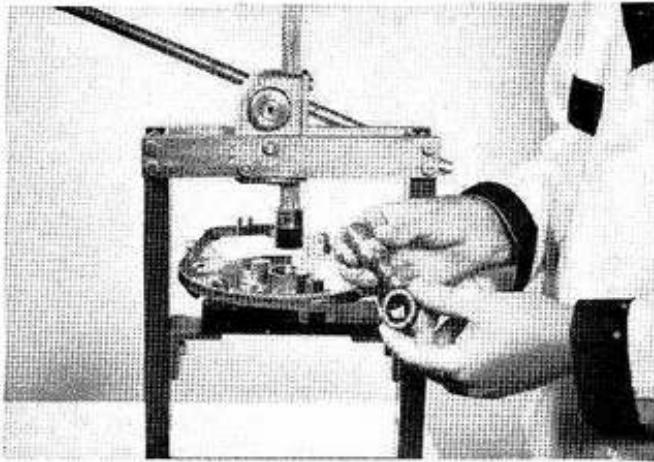

Figure 82. Installing a New Seal.
- e. Before installing a new seal, coat the outside of the seal housing with "Loc-Tite". (See Figure 82.) Position the backplate as illustrated and gently seat the seal until it bottoms. Do not cock the seal in the housing.
- d. To remove the seal on the power, take off side of the engine, position it in the arbor press, and press out. Installation of a new seal will follow the same procedure outlined for backplate seal installation. (See Figure 82.) On engines with a gear reduction box, see Figure 46 for seal installation.